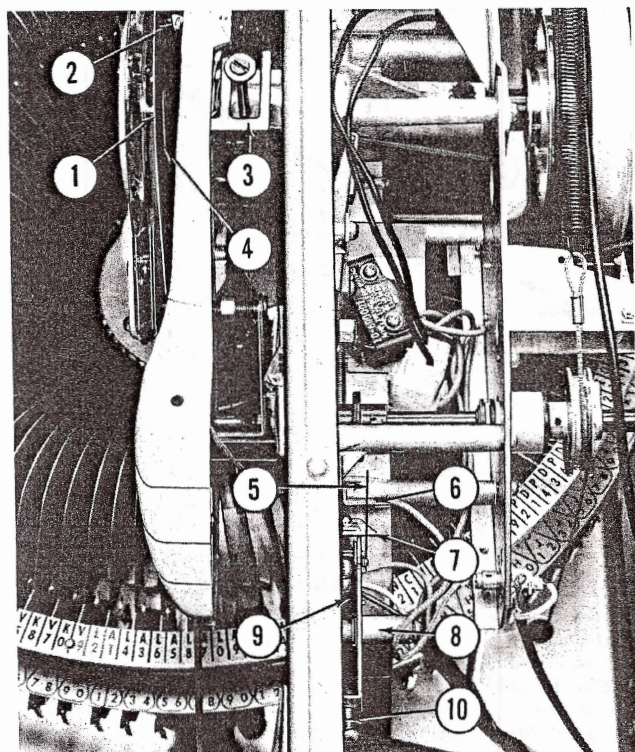

Fig. 81. TRIP SWITCH SETTING
(5) The tone arm trip switch (Fig. 81, Item 9) is adjustable by means of the screw (Item 10) and actuated by the bracket (Item 6). The switch is adjusted at the factory to R.I.A.A. standards which allows for extended play records. Due to the wide variations in records it may be necessary to readjust the trip switch. This may be done by measuring 1-1/4" to 1-5/16" from the edge of the centering hole in a standard record and marking. Place the record in the record carrier and select the marked side. Adjust the trip switch screw (Item 10) to produce switch action when the needle is on the mark.